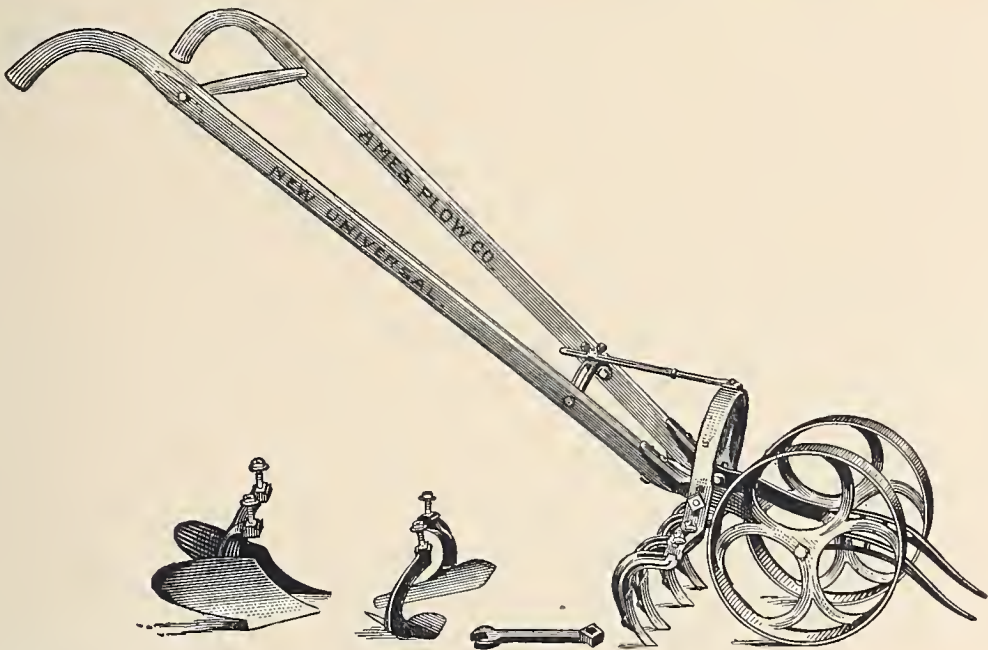

Fig. B 601.—New Universal Hand Double Wheel Cultivator.
*The New Universal Hand Double Wheel Hoe, Cultivator and Plow*, illustrated at *Fig. B 601* and *B 602*, is specially designed for working both sides of the row at one passing. This new hand implement embraces all the good points of older efforts in the same line, and in addition offers new features which cannot fail of appreciation. The special recommendation is the adjustable arch, by which not only the depth of work can be gauged, but which, by an ingenious device, enables the teeth